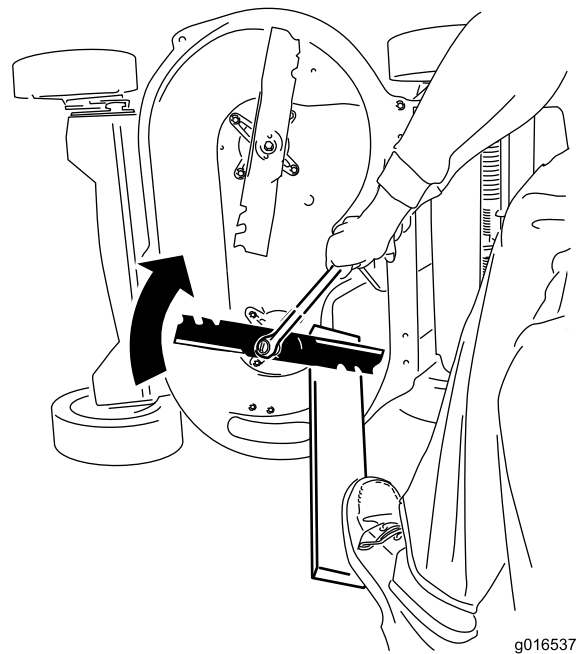

Figure 46
2. Steady each blade with a board and turn the blade bolt clockwise with a torque wrench as shown in Figure 46; torque the blade bolt to 60 ft-lb (82 N-m).